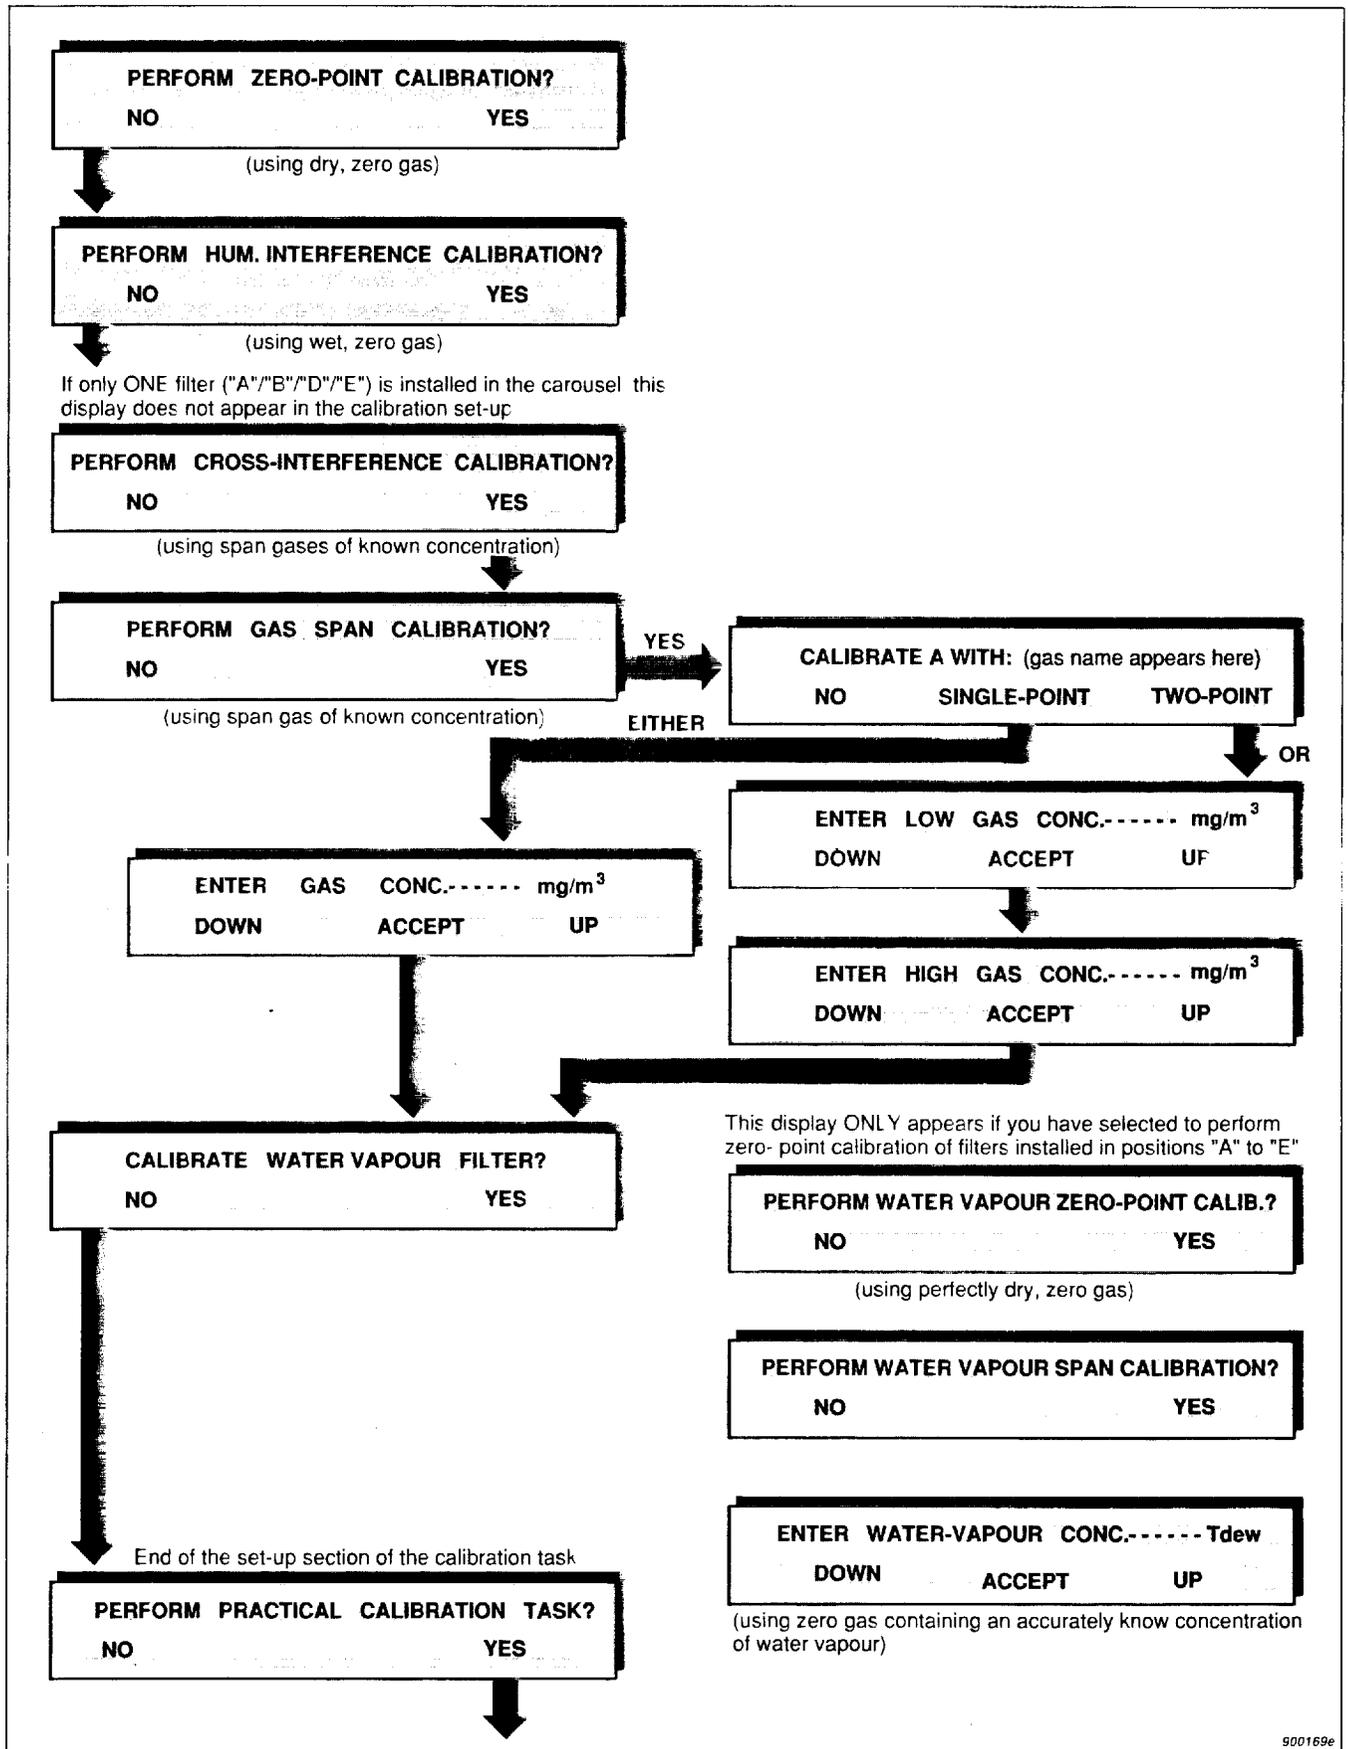

Fig. 16.15. Schematic diagram showing how to set-up a combined cross-interference and span calibration task (follow the arrows)
- (b) If you wish to perform cross-interference calibration as well as span calibration, follow the set-up of the combined calibration task by following the black arrows in the schematic diagram shown in Fig. 16.15.